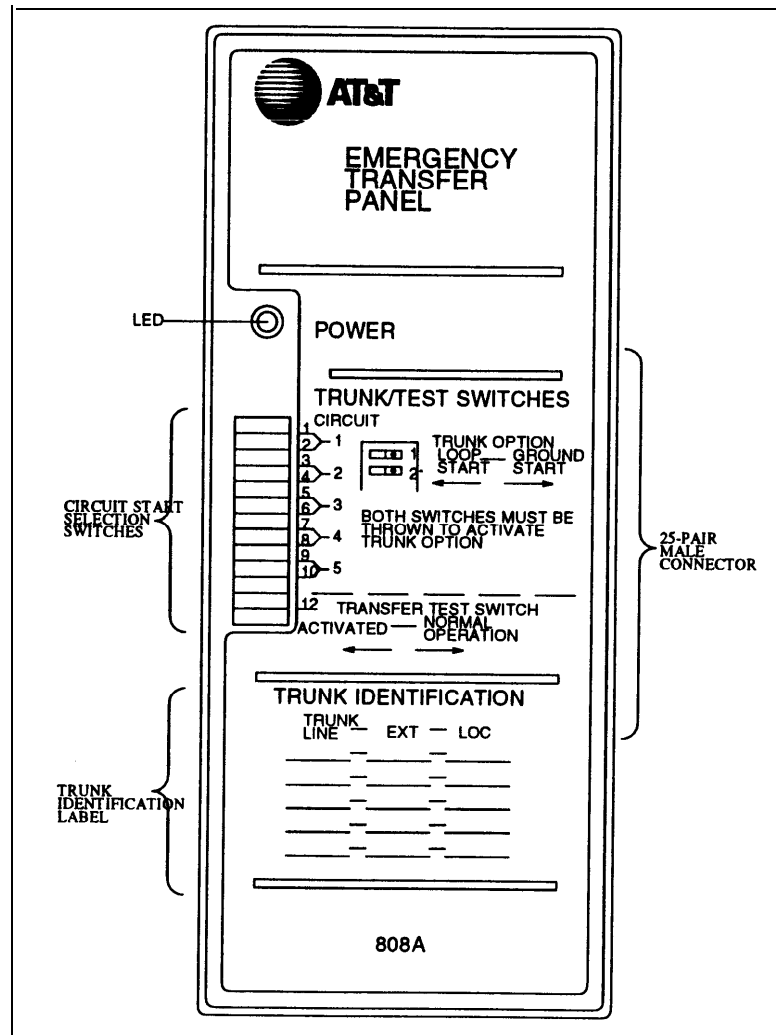

Figure 30-28. 808A Emergency Transfer Panel
The 808A unit is shown in Figure 30-28.
Step 1: Locate the circuit start selection switches (see Figure 30-28). These are the first 10 two-position switches on the left side of the ETP. They are used to set each of the five incoming trunk lines to either loop start or ground start. Two switches are used for each circuit; switches 1 and 2 are used for circuit 1, switches 3 and 4 are used for circuit 2, etc. (see Table 30-8). Using Figure 30-28 as a reference, for loop start set the switches to the left. For ground start set the switches to the right.
Step 2: Connect a 25-pair cable between the male RJ21 25-pair connector on the ETP and the switch. Location of the connector is shown in Figure 30-28. Table 30-9 shows the pin assignments.
- Place the test switch (switch 12) in the NORMAL OPERATION position (see Figure 30-28).
- Verify power by observing the LED (see Figure 30-28). It should be ON.
- Place the test switch (switch 12) in the ACTIVATED position (see Figure 30-28).